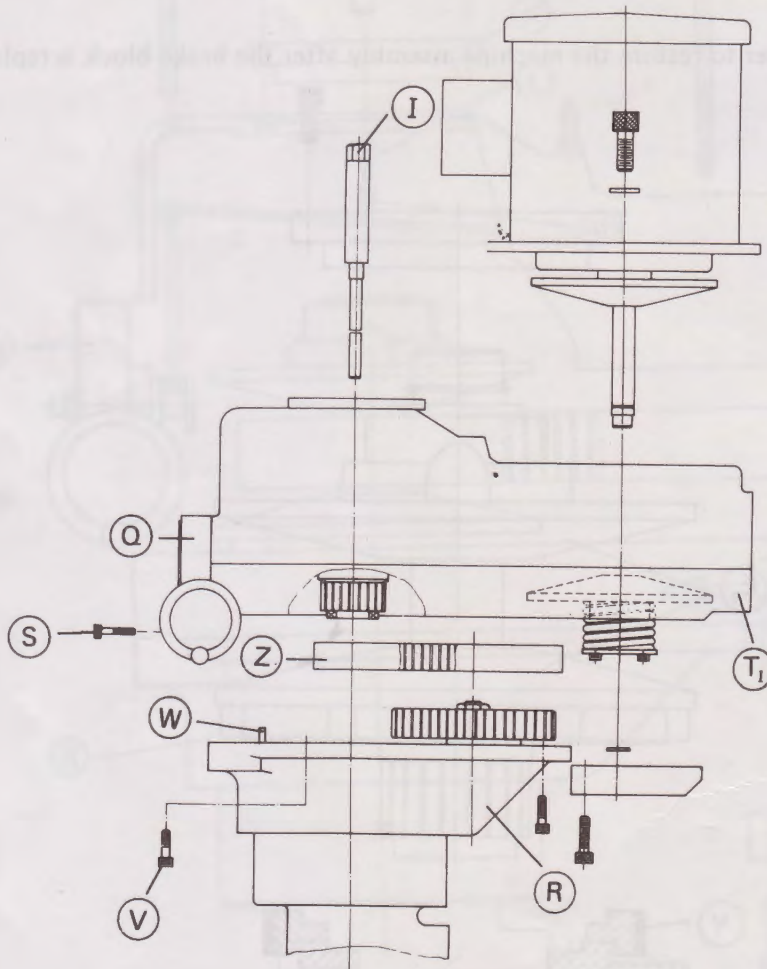

Figure 28
- c. As shown in Figure 28, take off the connected gear housing (R) and the four hexagonal concave bolts (V) bottom belt housing (T1).
- d. Use a soft mallet and hit the bottom belt housing lightly to disengage it with the fix pin (W) to dismantle the bottom belt housing (T1) as shown in Figure 28.
- e. Take off the hexagonal concave bolt (X) of the two setting bearing housing and remove the front vari-disc assembly set (E1). Brake block (Y) can be replaced then.
(4) Replacement of Timing Belt:
- c. Refer to Step c to d on P. 28 replacement of brake block for the dismantling of bottom belt housing and change the timing belt as shown in Figure 28.